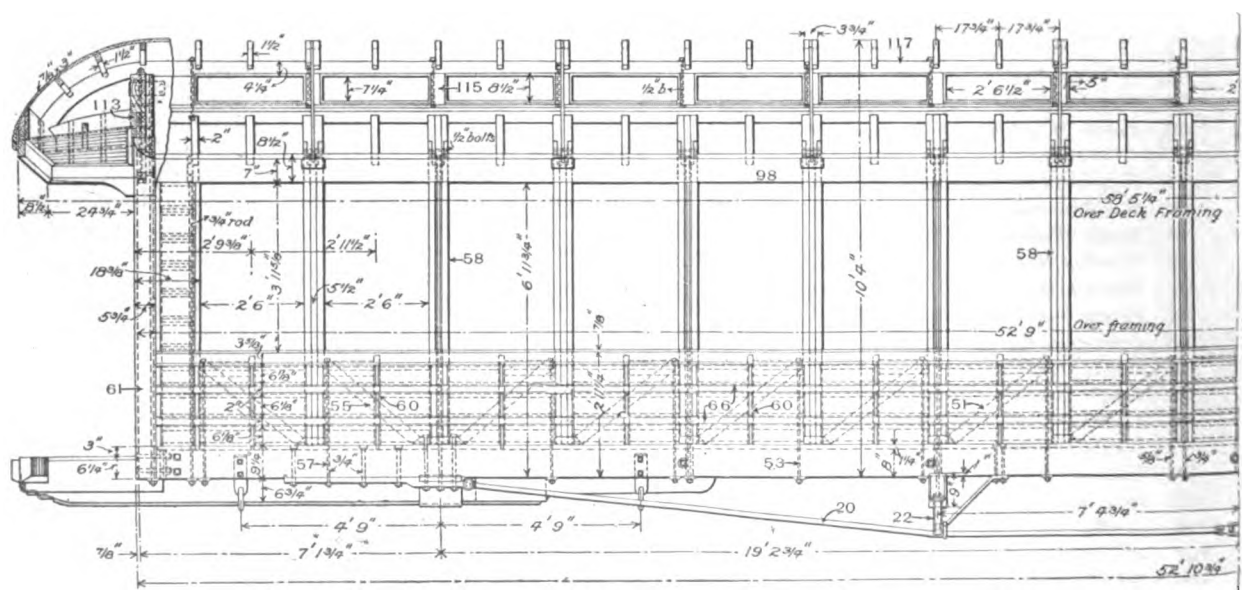

**Fig. 447. Sectional Side Elevation.**
- 102a. *Sash-balance (Fig. 447).*